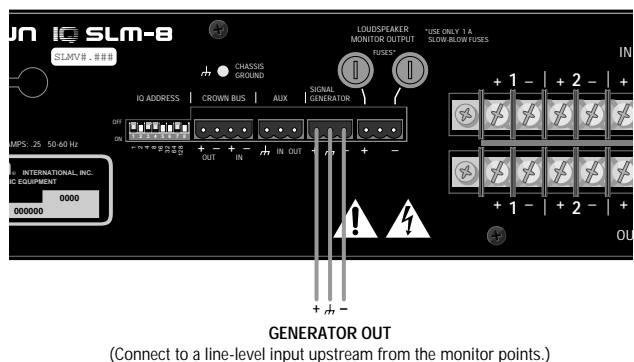

Fig. 4.5 Generator Wiring
Step 5: Connect the SLM-8 signal generator to the audio system upstream of the monitor points. The SLM-8 contains a state-of-the-art direct digital synthesis generator to produce the high-quality, low distortion sine waves required for impedance and frequency response tests. The signal from the generator needs to be inserted into the system at some point upstream of the monitor points. For example, the generator needs to be connected upstream of the amplifier inputs if amplifier outputs and loudspeaker loads will be monitored. See Figure 4.5 below: